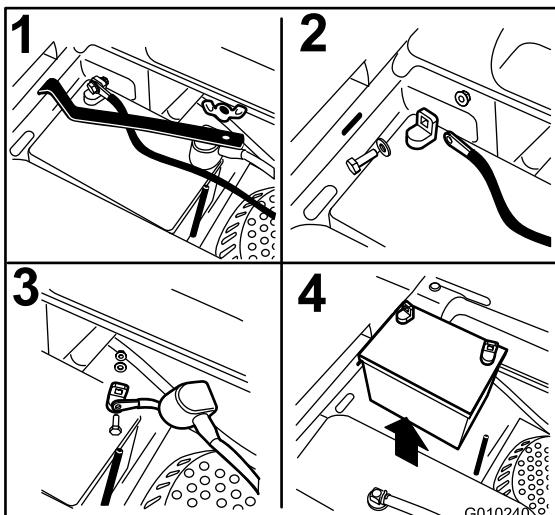

Figure 53
- Remove the wing nut securing the battery clamp (Figure 53).
- Remove the clamp (Figure 53).
- First disconnect the negative battery cable (black) from the negative (-)(black) battery terminal (Figure 53).
- Slide the red terminal boot off the positive (red) battery terminal and remove the positive (+)(red) battery cable (Figure 53).
1. Position battery in the tray with the terminal posts opposite from the fuel tank (Figure 53).
4. Secure the cables with 2 bolts, 2 washers, and 2 locknuts (Figure 53).
6. Install the clamp and secure it with the wing nut (Figure 53).